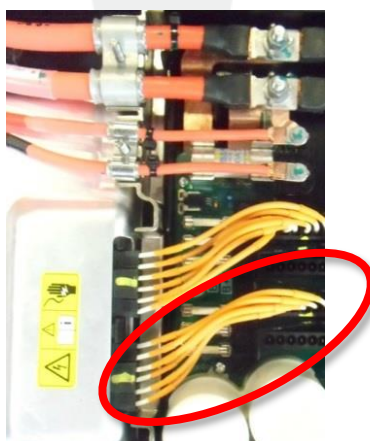

Figure 6
9. Remove and discard the forward harness that connects the HVJB and master charger (Figure 6).